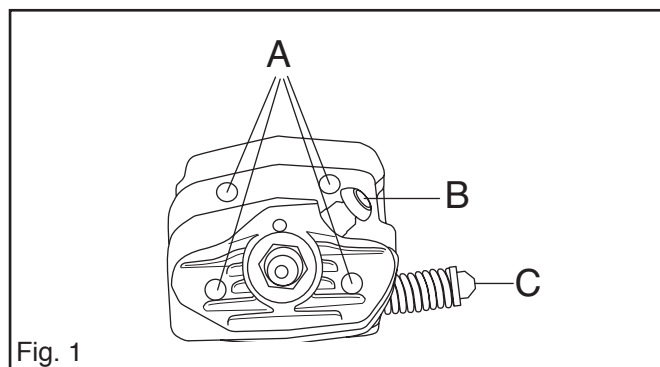

Fig. 1
8. Unscrew the decompression valve (B). See fig. 1.